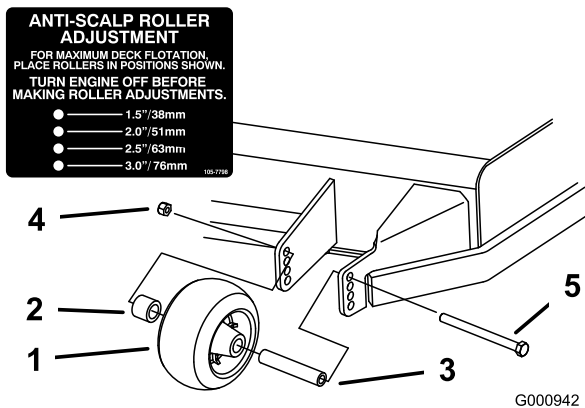
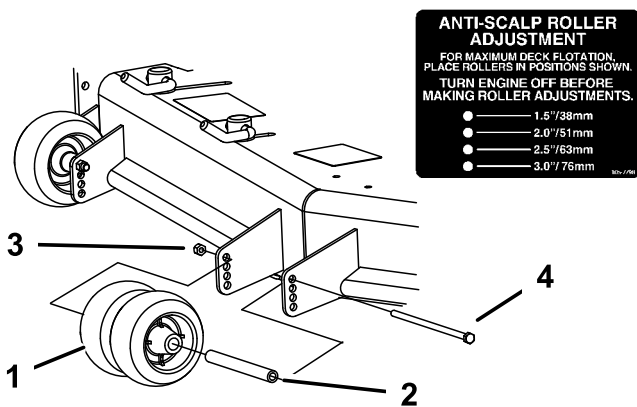
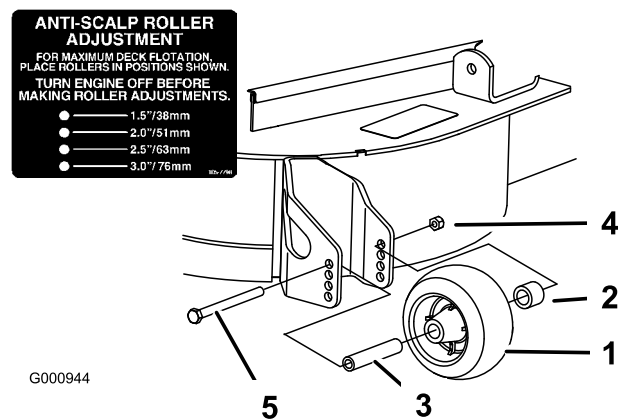

Figure 20
Figure 21
Figure 22
3. After adjusting the height-of-cut, adjust the rollers by removing the flange nut, bushing, spacer, and bolt (Figure 20 , Figure 21 and Figure 22).
Note: The two middle rollers will not have a spacer (Figure 21).
5. Install the flange nut bushing, spacer, and bolt. Torque to 40-45 ft-lb (54-61 N-m) (Figure 20 , Figure 21 and Figure 22).